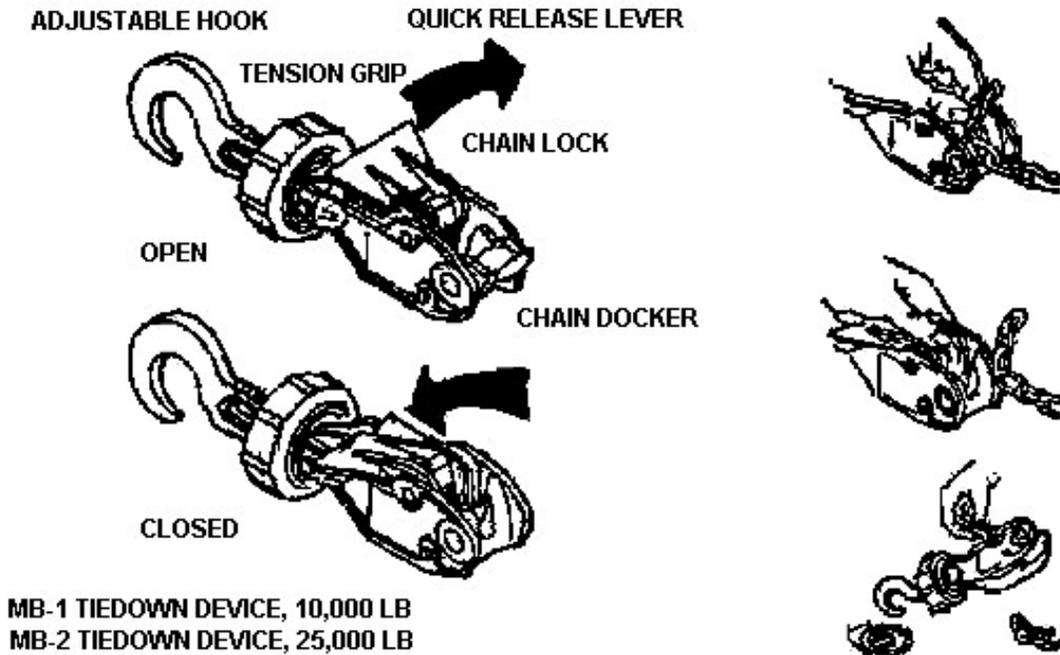

Figure 3-3
4. Install tie-down devices (see Figure 3-3).